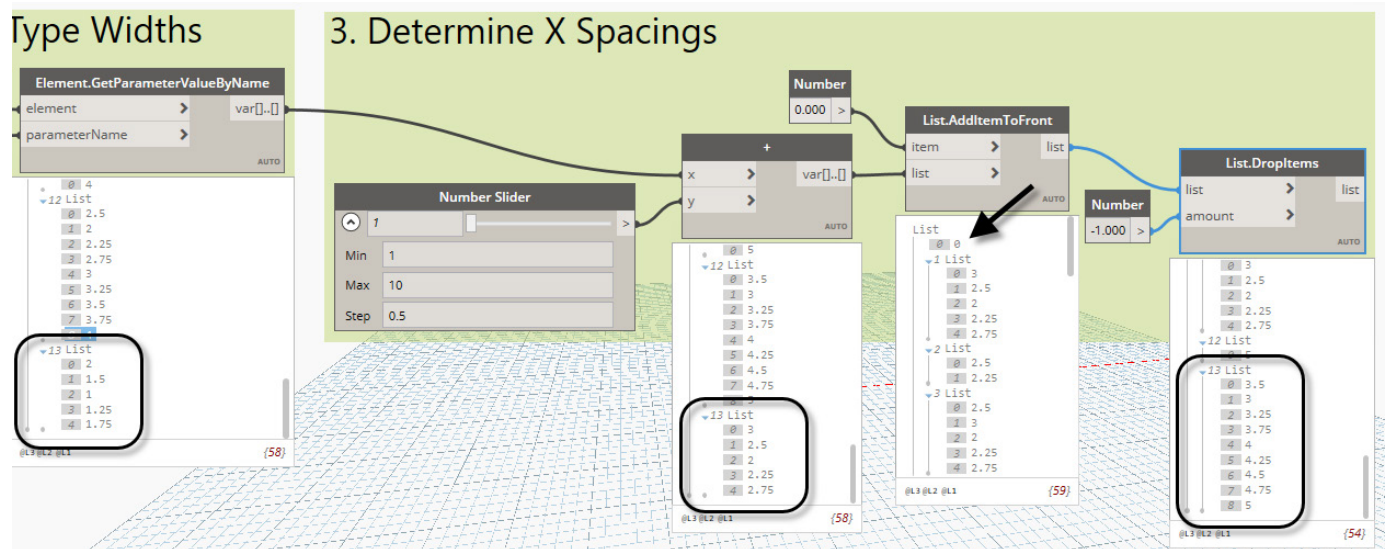

FIGURE 52
23. Wire and group the nodes as indicated in Figure 52.